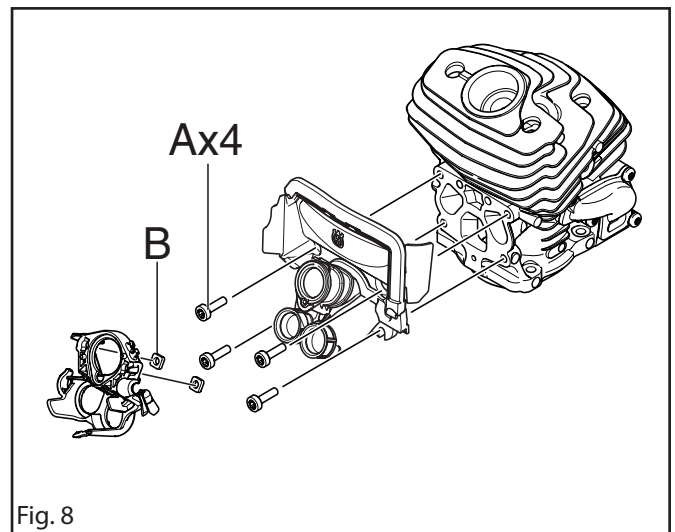

Fig. 8
3. Fit the intake manifold on the cylinder before fitting the cylinder to the crankcase. Apply grease to the sealing surface. Tighten the 4 screws. The square nuts (B) can be replaced if damaged. See figure 8.